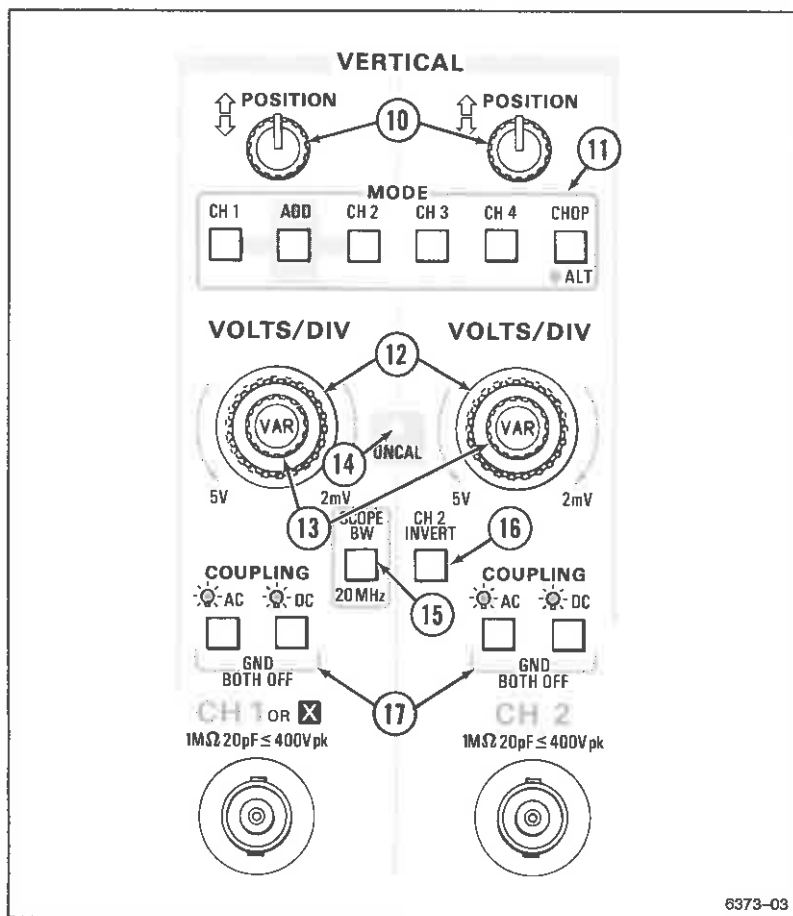

Figure 2-2. CH 1 and CH 2 vertical controls and indicators.
Refer to Figure 2-2 for location of items 10 through 17.